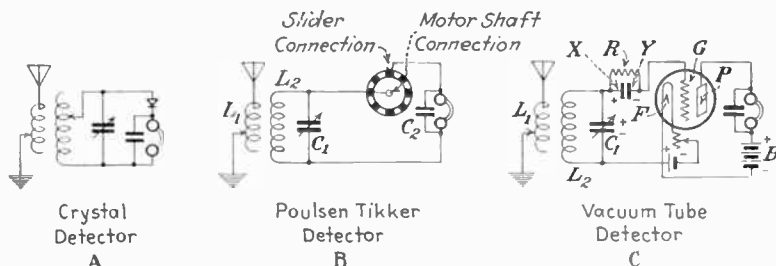

FIG. 34.—Three types of detector circuits.
*Ans.* Figure 34 illustrates three types of detector circuits. The crystal detector rectifies the high frequencies into unidirectional impulses. These rectified pulsations are impressed across the telephone bypass condenser. In other words, the
*Ans.* The theoretical operation of the Poulsen tikker, illustrated in Fig. 34, is as follows: